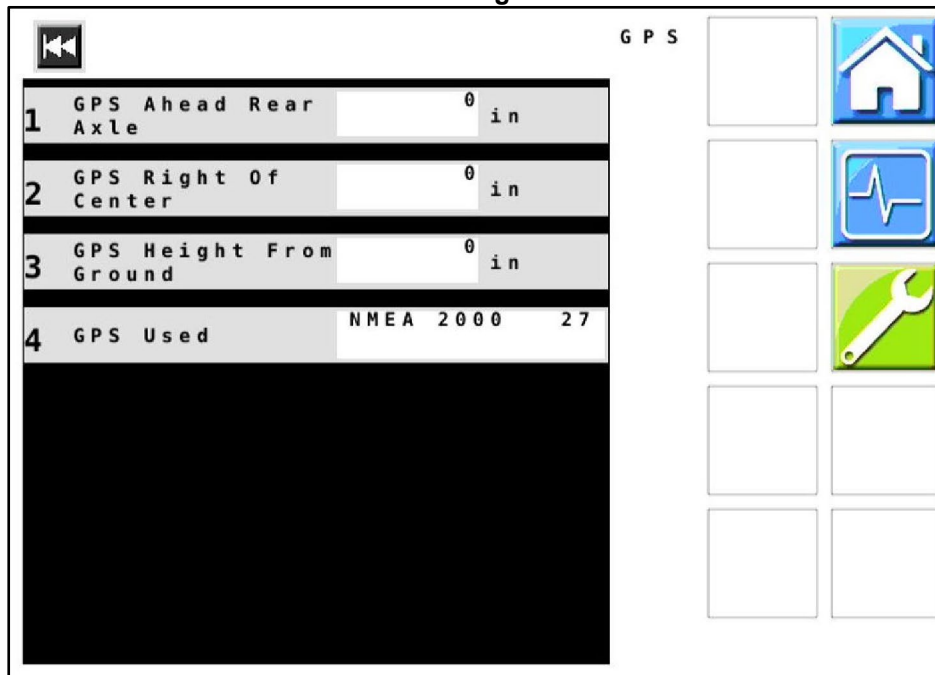

Figure 23 — GPS
41. **Figure 23:** Select the type of GPS from the list of available options. Not all the options listed here will be shown on your system. Only the types available for your system will be shown on your list.